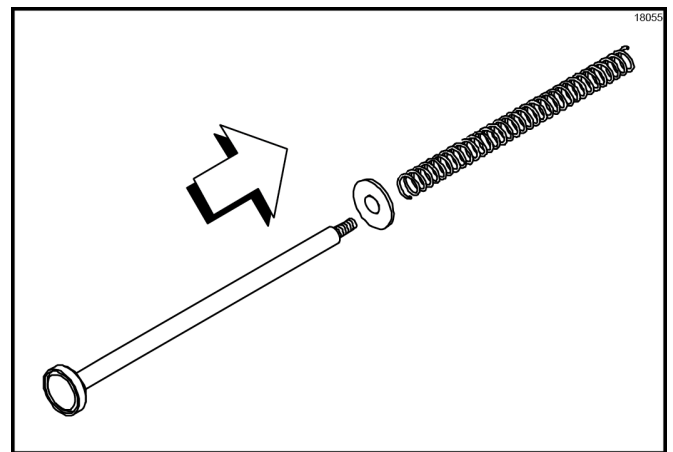

Figure-75
6. Remove the spring and washer from the plunger assembly. (See Figure-75.)